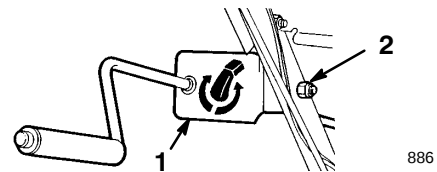

Figure 10
1. Assemble the chute control bracket and rod to the left side of the handle with a capscrew and a locknut. Leave the locknut loose (Fig. 10).
5. Tighten the locknut that secures the chute control bracket (Fig. 10).